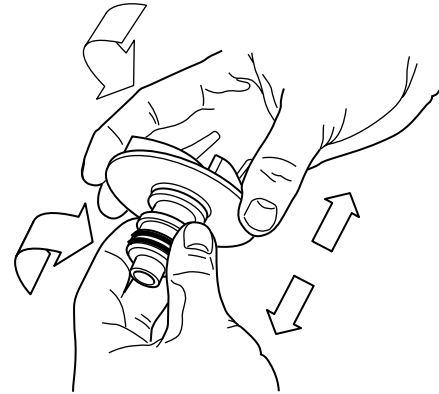

Figure 2
5. Carefully remove rotating part of seal from impeller sleeve by pulling and turning on sealing washer and spring (Figure 2). Do not damage impeller surface where drive ring seats and seals.